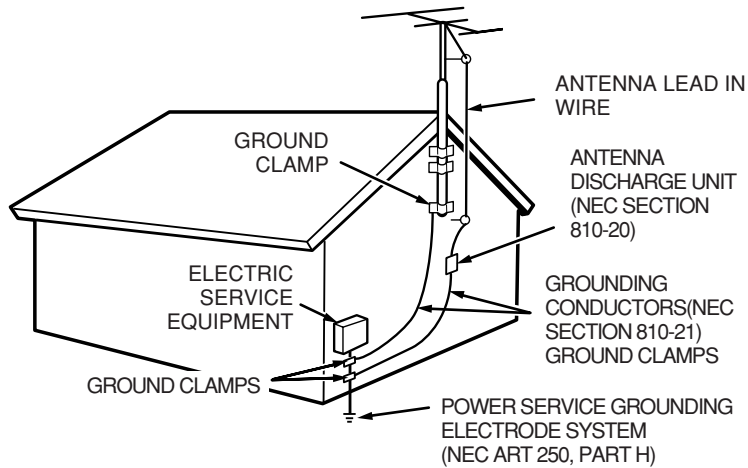

FIGURE 1
15. **Outdoor Antenna Grounding** – If an outside antenna or cable system is connected to the product, be sure the antenna or cable system is grounded so as to provide some protection against voltage surges and built-up static charges. Article 810 of the National Electrical Code, ANSI/NFPA 70, provides information with regard to proper grounding of the mast and supporting structure, grounding of the lead-in wire to an antenna discharge unit, size of grounding conductors, location of antenna-discharge unit, connection to grounding electrodes, and requirements for the grounding electrode. See Figure 1.